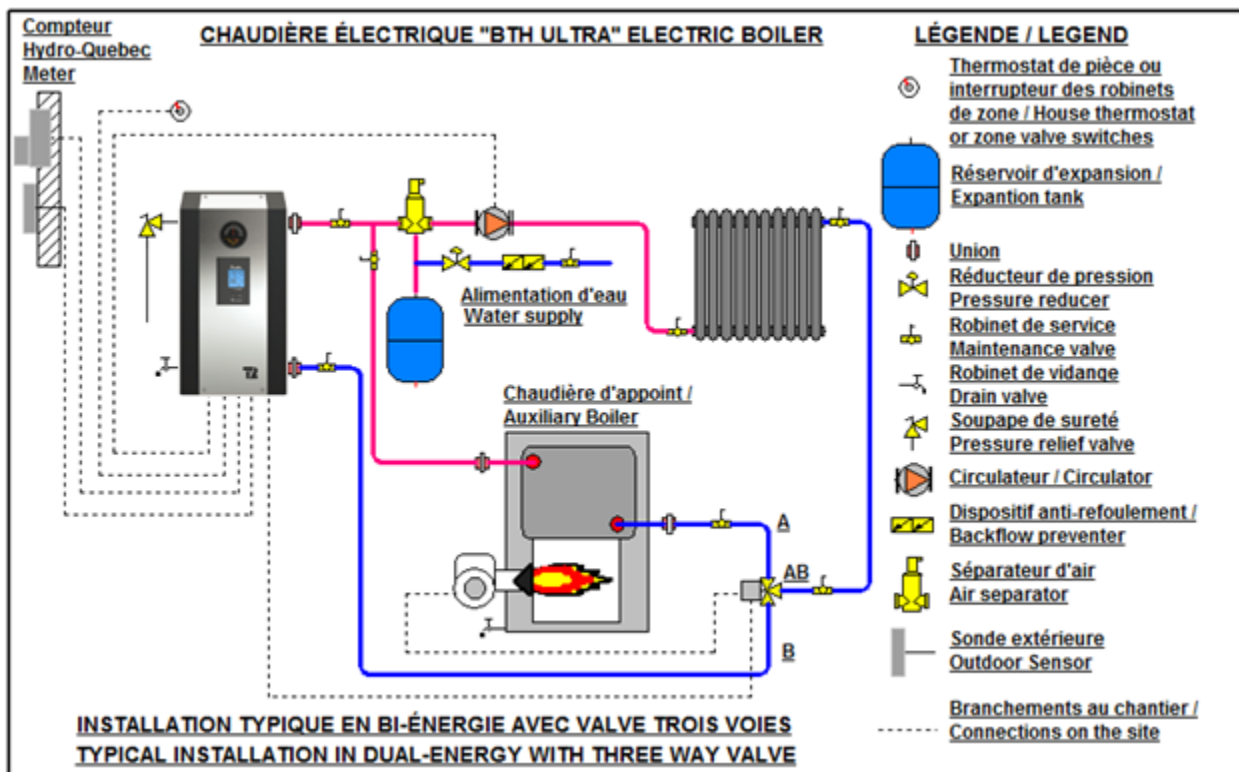

Figure 7 : Typical installation with three way valve
Piping connections between the two boilers can be made in parallel or in series as illustrated in fig. 7&8.
- **If the piping installation is made as shown on fig.7 without a three-way valve:** Install an 18ga two wire cable between boiler terminals “**AUX**” and the **TT** terminals of the auxiliary boiler.